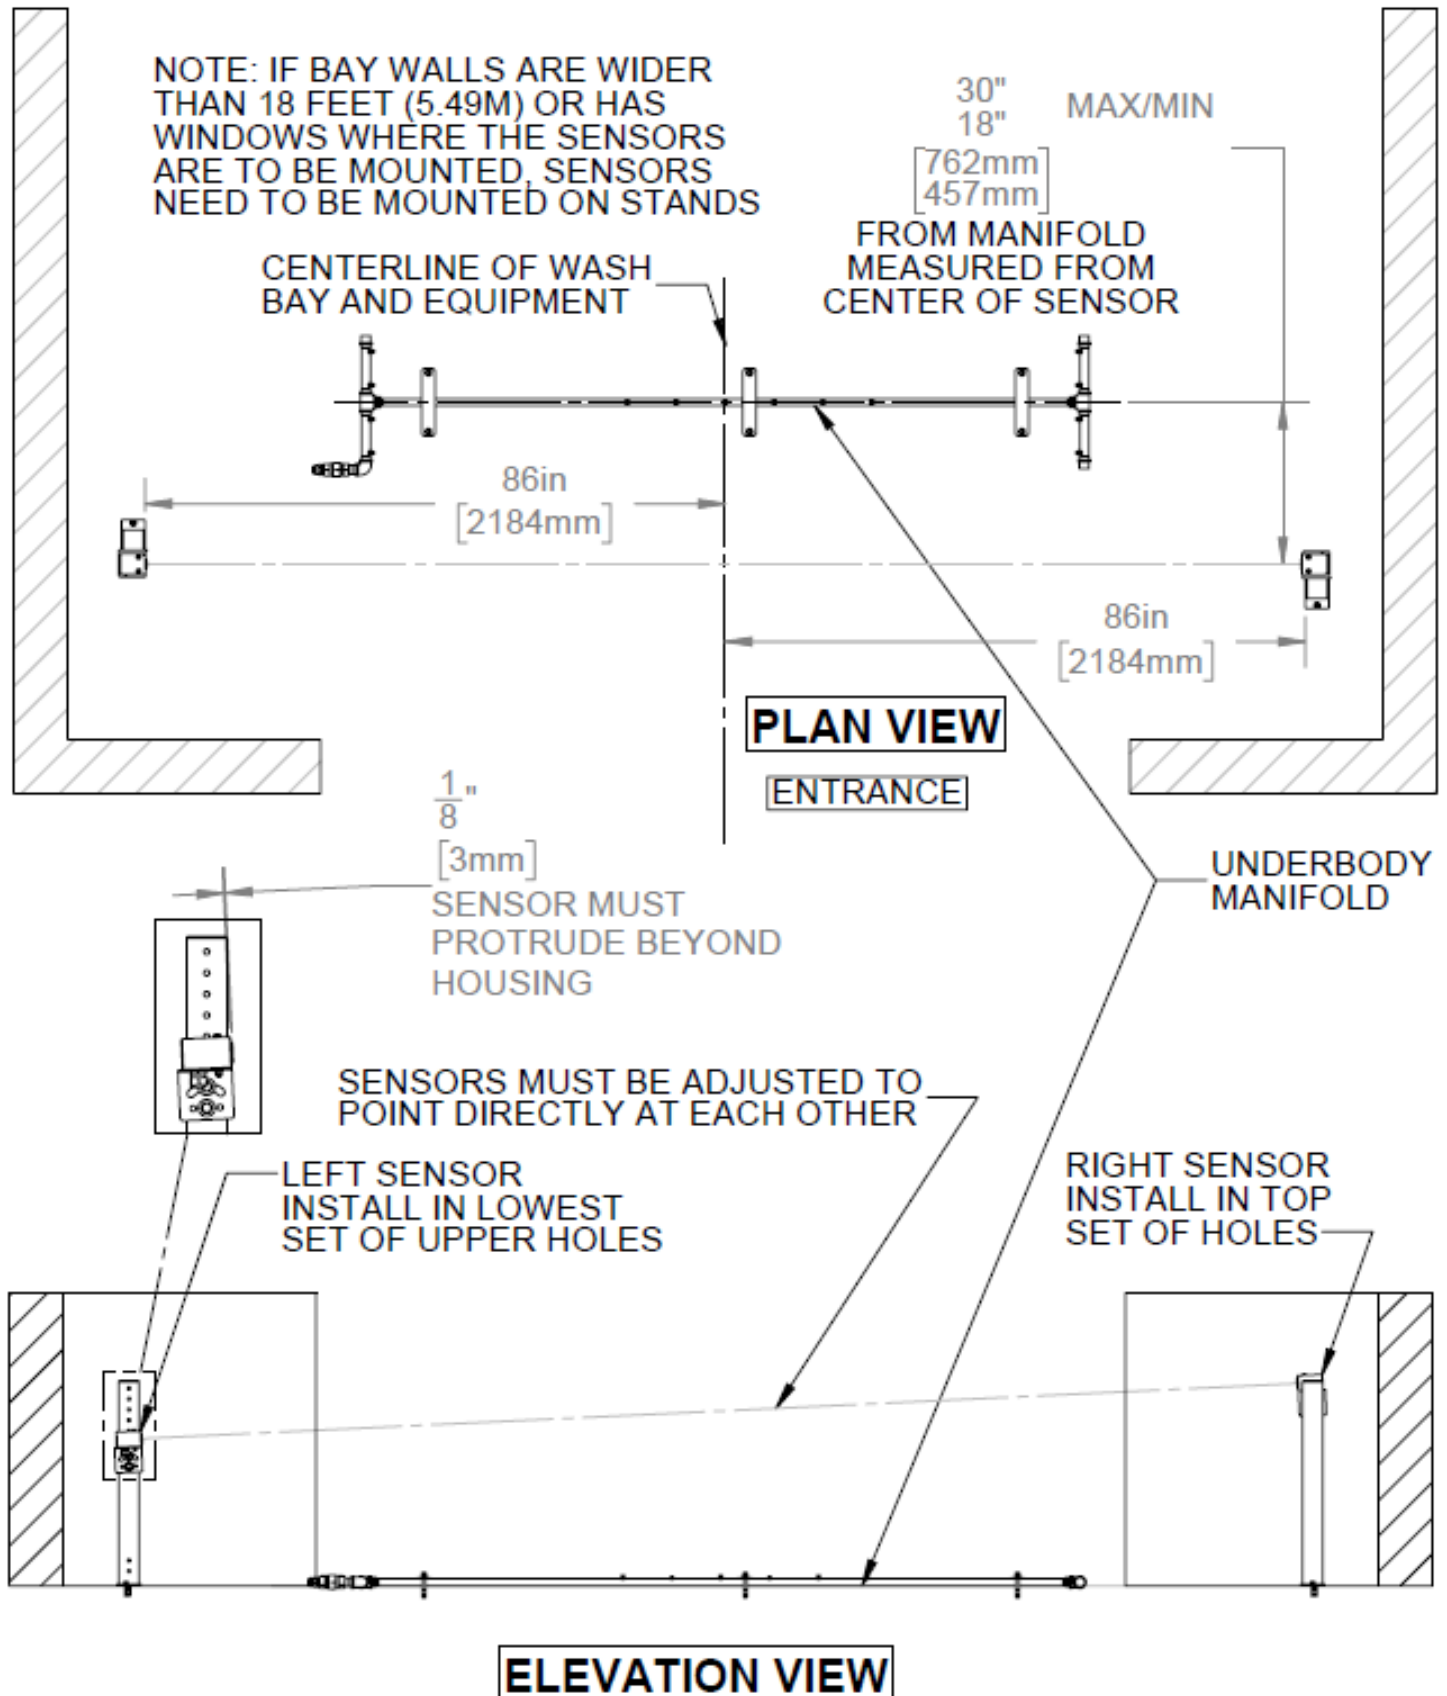

Figure 127 - Stand Mounted Ultrasonic Underbody Activation Sensor Location
- Figure 127 shows the preferred mounting positions for the stand mounted ultrasonic sensor assemblies.
- The stand mounted assemblies are provided with (2) 3/8" x 1 7/8" long sleeve anchors. If these anchors are not appropriate for the floor material, the site is responsible for providing appropriate anchors.
- Mount the sensor assemblies to the floor while taking note of the direction of the strain relief for the sensor cable. Be sure this is pointed downward. Ensure the sensor face protrudes from the cover as shown in Figure 127.
- Adjust the position of one of the sensor assemblies (left hand side as shown in Figure 127) so that it is in the lowest set of upper holes.